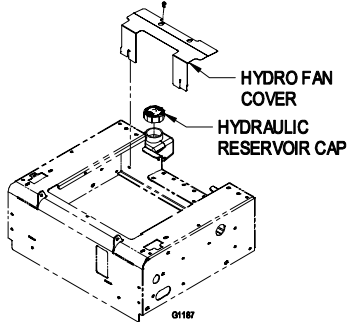

FIGURE 2
2. Remove hydro fan cover and hydraulic reservoir cap as shown in Figure 2.